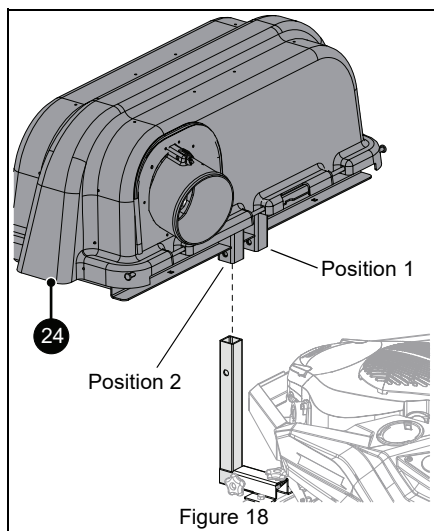

Figure 18
1. Install hood assembly (item 24) position 2 receiver onto L bracket. See Figure 18.